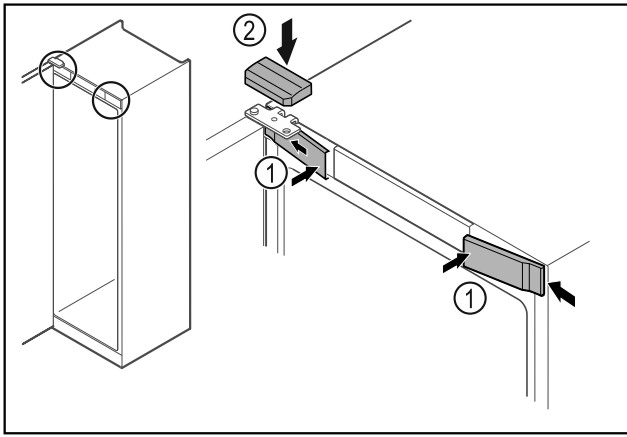

Fig. 68
- ▶ Hook in the front covers Fig. 68 (1) on the side and snap them into place.
- ▶ Snap on the top cover Fig. 68 (2) from above.